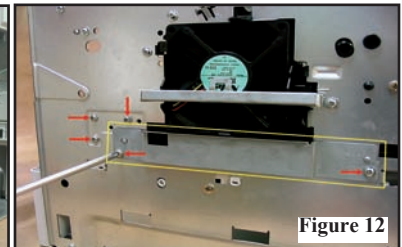

Figure 12 - Once the five screws labeled "M3" (red arrows) are removed, the connector access cover can be removed (yellow box).
8. Now switch to the left side of the printer and locate the five screws labeled "M3" (Figure 12, arrows) and remove them. Two of these screws hold on the connector access cover, which you should remove at this time (Figure 12, yellow box).